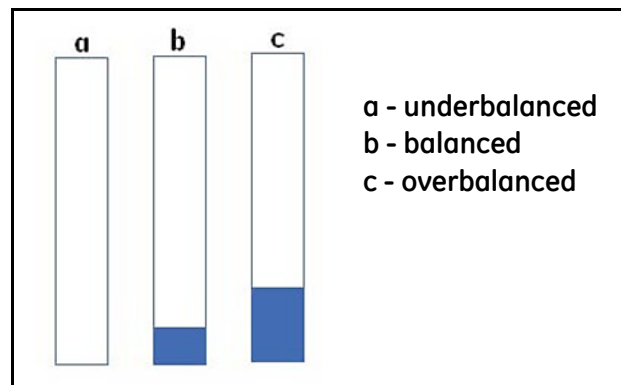

Figure 45: Coarse Adjust Balance Indicator While Mirror is Heated
4. Observe the balance indicator. It should have only one bar segment illuminated. *Figure 45* below shows the possible variations for the indicator while the mirror is heated.